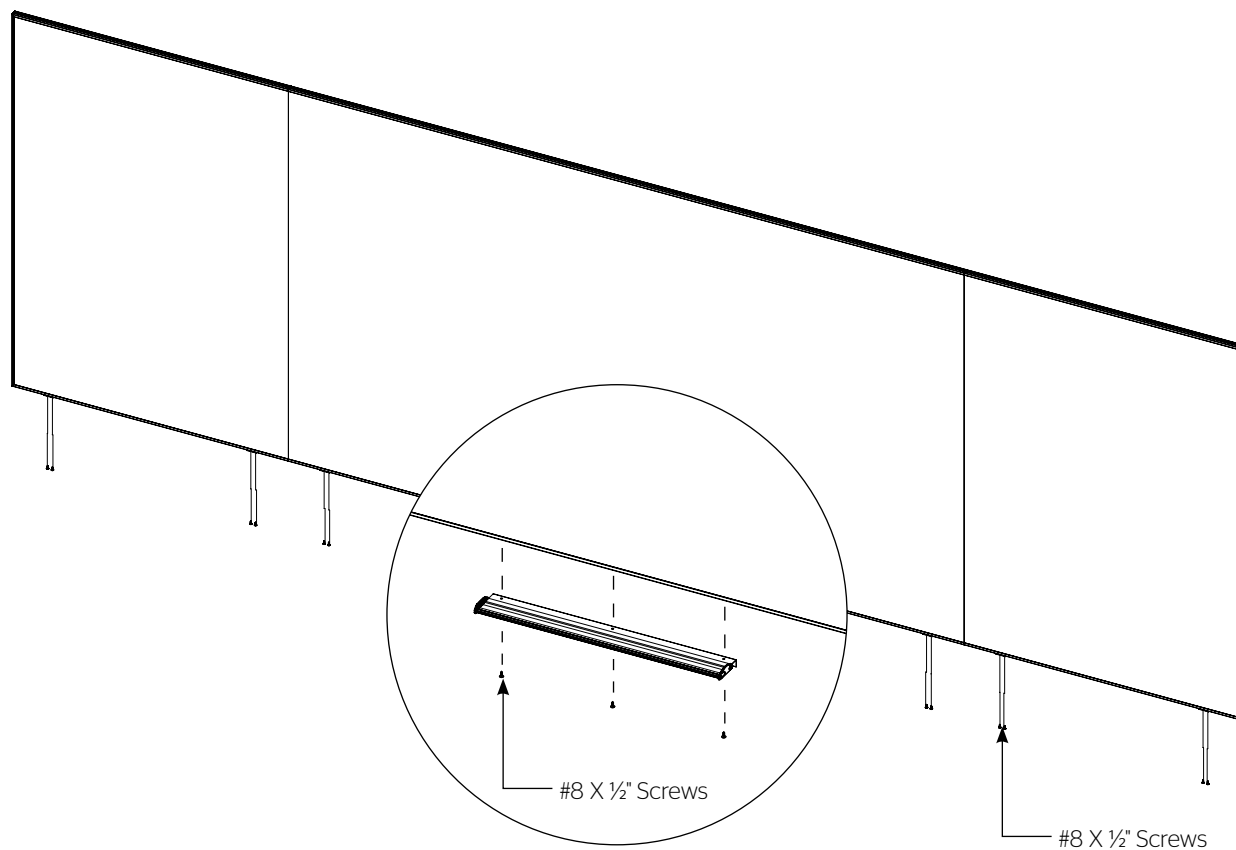

Figure 4
- Repeat Steps 3-4 to install the (4) remaining L-brackets for the side panels.
- Center the aluminum tray to the bottom of the center panel frame and attach with (3) of the provided #8 x 1/2" screws. Insert screws through the tray into the groove (Figure 4).
- Tap the bottom of the six L-brackets with the rubber mallet until they make contact with the frame. Secure the six L-brackets to the frame with the remaining (12) #8 x 1/2" screws (Figure 4).